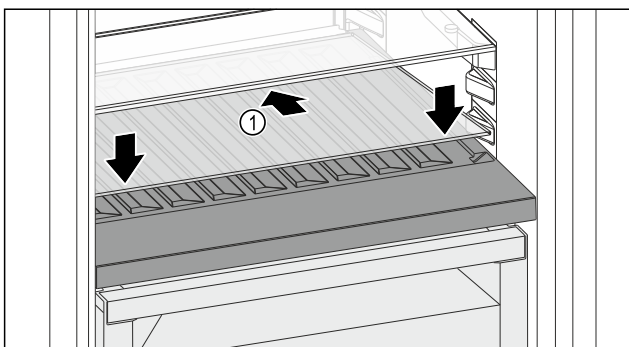

Fig. 112
- ▶ Place the glass shelf Fig. 112 (1) at an angle, sloping it downwards and backwards.
- ▶ Lower the glass shelf Fig. 112 (1) at the front.